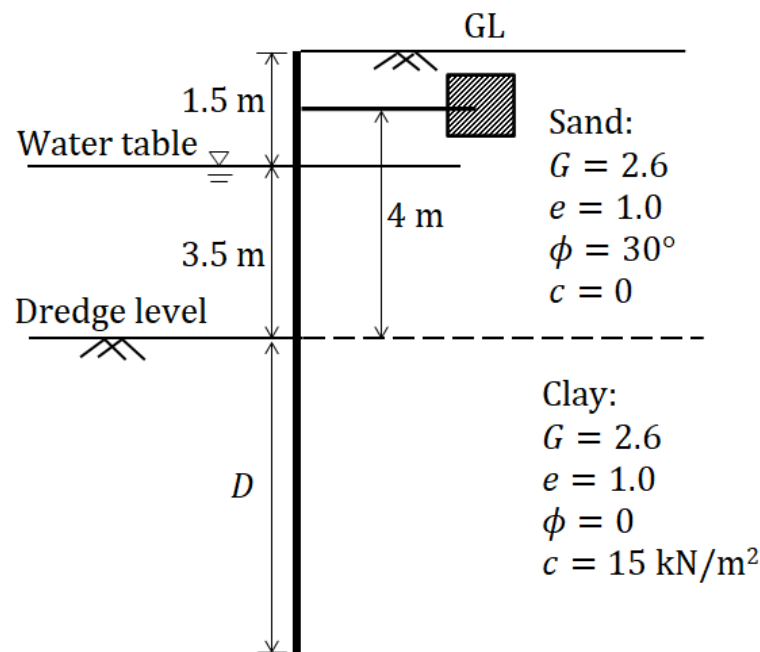

Fig. 2
9. Determine the theoretical depth (D_{theory}) of embedment, actual depth (D_{actual}) of embedment [$D_{\text{actual}} = 1.4D_{\text{theory}}$], and the force in the anchor rod for the anchored bulkhead (Fig. 2) by free earth support method. The backfill is sand having $\phi = 30^\circ$ and the soil below the dredge line is clay, having $c = 20 \text{ kN/m}^2$. For both the soil, assume $G = 2.6$, and $e = 1.0$ and the soil above the water table is dry.